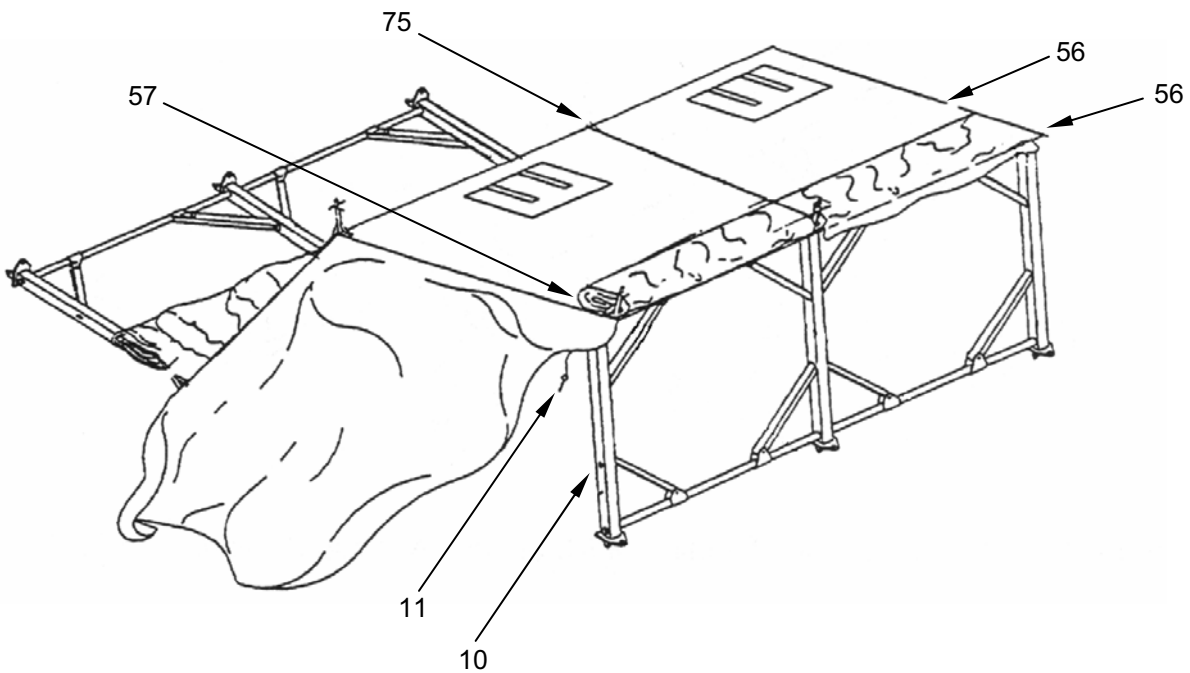

Figure 34. Fully Erecting the Frame.
1. Fold wall fabric (**Figure 34, Item 56**) towards ridge fabric (**Figure 34, Item 56**) and lay on roof (**Figure 34, Item 75**) to expose eave gussets (**Figure 34, Item 57**).
2. Identify quick release pin (**Figure 34, Item 11**) and ensure it is hanging free.
3. Identify the locking hole in the side arch assembly (**Figure 34, Item 10**) and ensure it is free of debris.